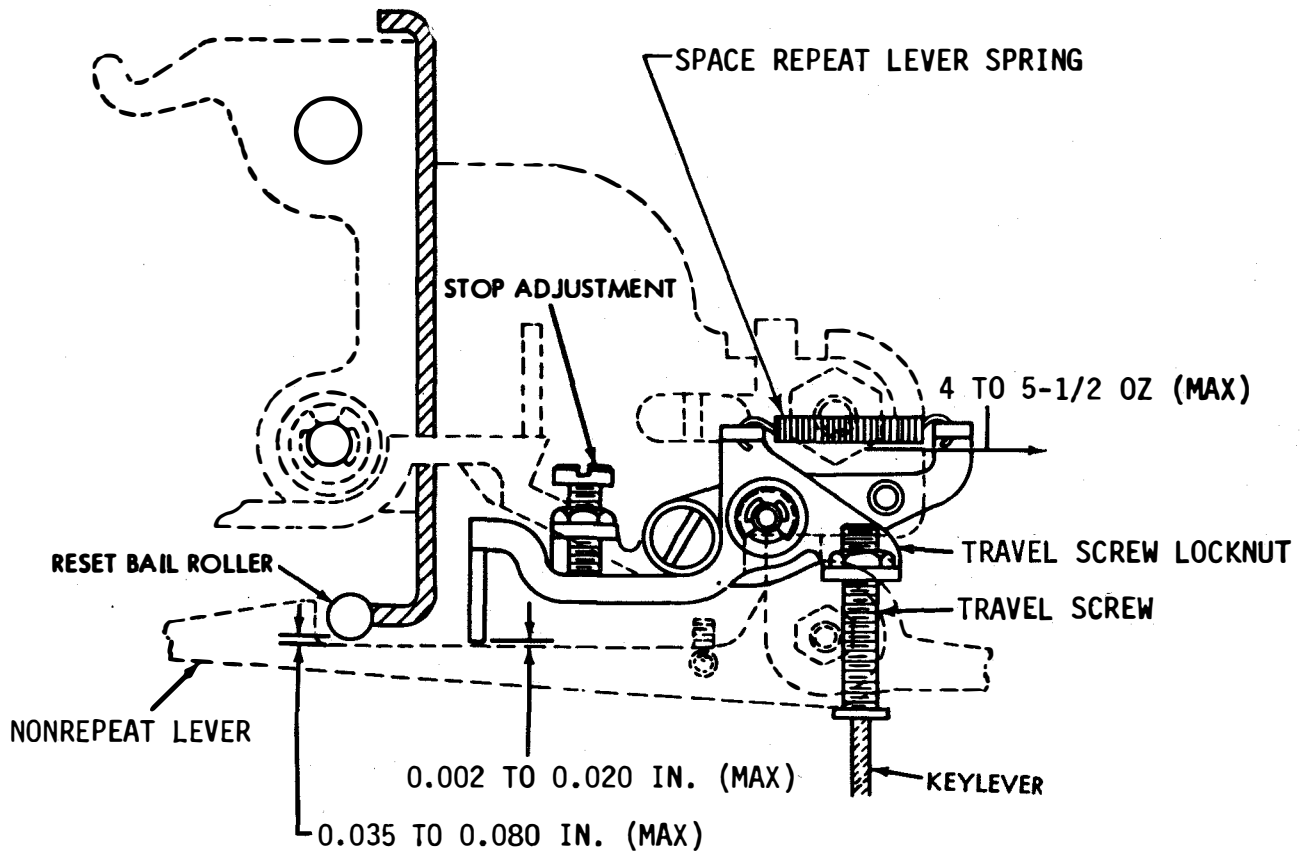

Figure 6-302. Travel Screw, Stop, and Space Repeat Lever Spring
- (a) Refer to figure 6-302.
- (2) Stop. Adjust as follows:
(3) Space Repeat Lever Spring. Adjust as follows: